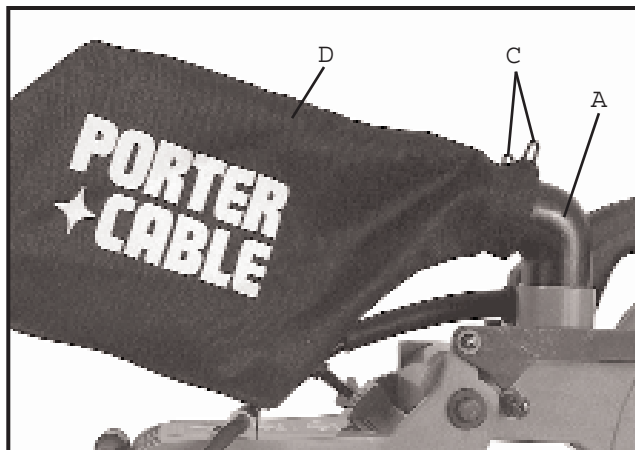

Fig. 11
2. Compress spring clips (C) Fig. 11, on dust bag (D) and clip dust bag onto end of elbow (A) as shown.